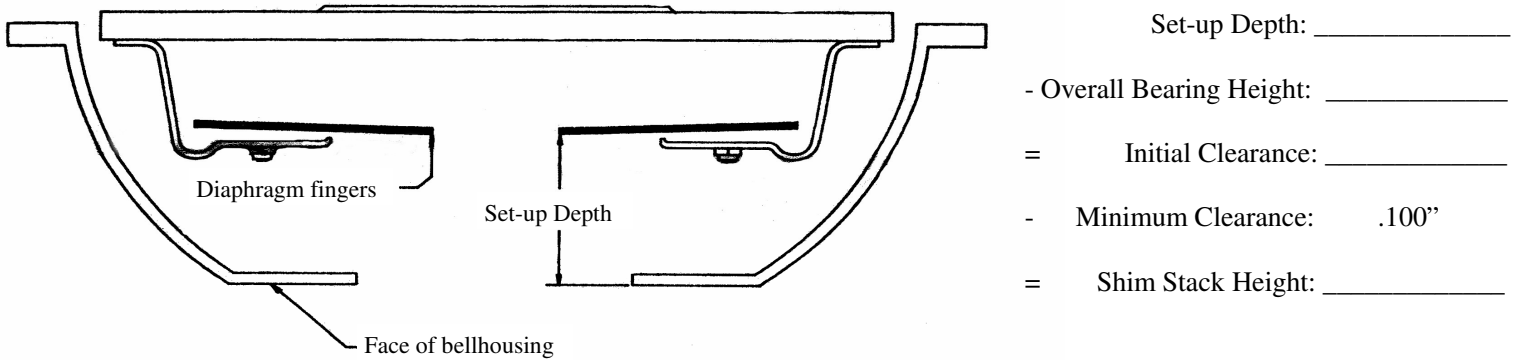

Figure 1: Set-up Depth Measurement
6. Using a straight edge, measure the distance from the diaphragm fingers to the face of the bellhousing. Record that number as Setup Depth. Refer to Figure 1.